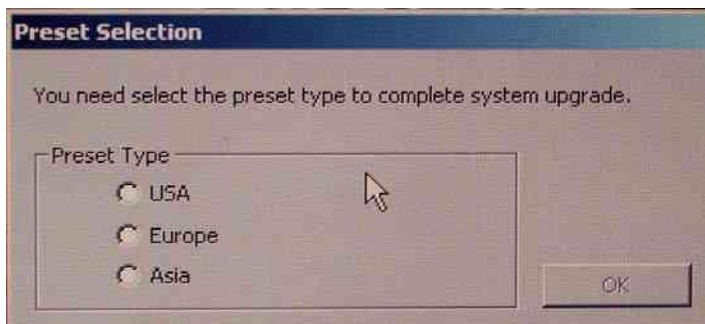

Figure 8-10 Region selection message
11.) Make a region selection when below message display as show in Figure 8-10 on page 8-7 .